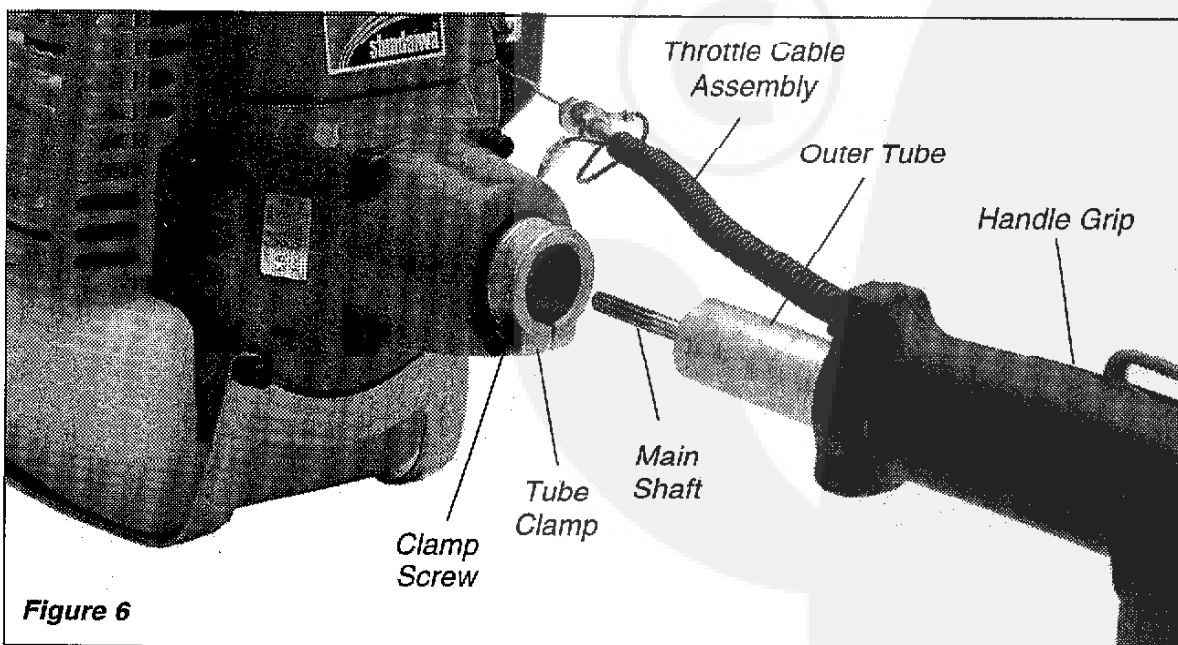

Figure 6
4. Position the outer tube so the stop switch is facing up. See Figure 6.